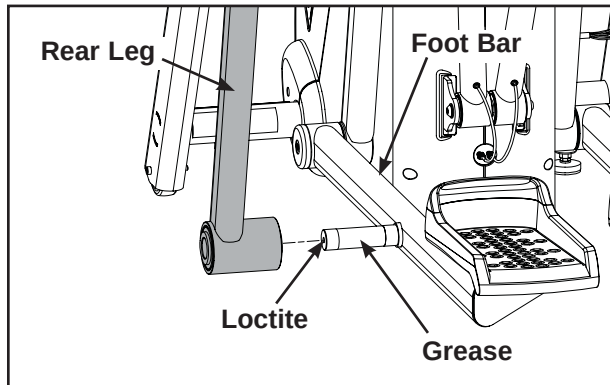

Figure 4
- C. Remove the rear leg from the foot bar. See Figure 4.